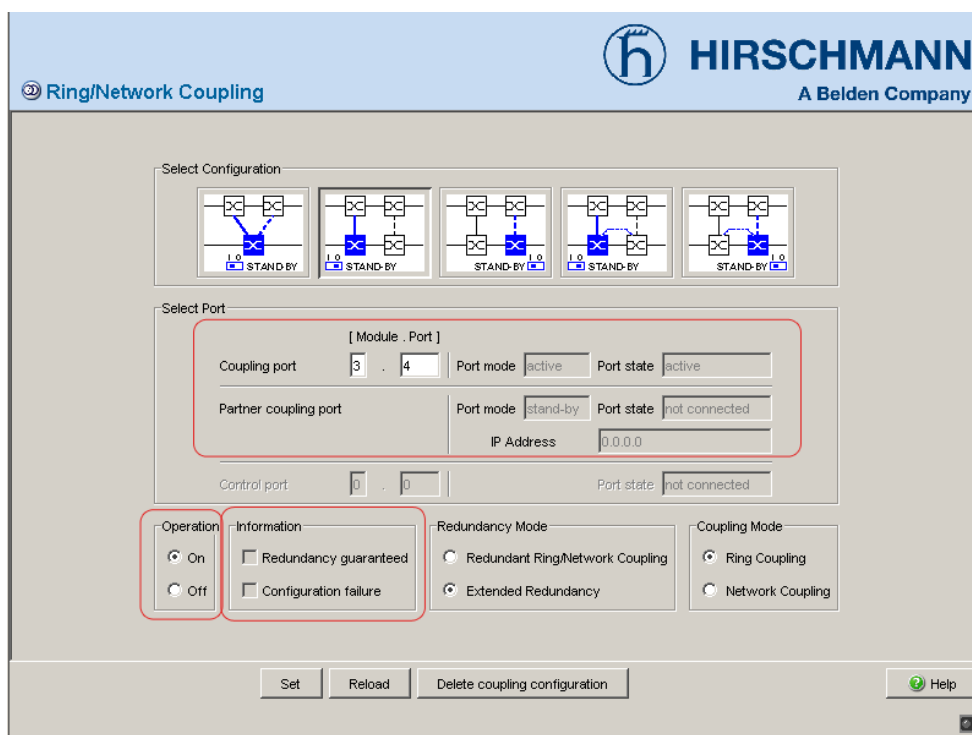

Figure 15: Selecting the port and enabling/disabling operation
- ☐ Activate the function in the “Operation” frame (see fig. 15).
☐ Select the coupling port (see fig. 15), (see table 9).
The displays in the “Select port” frame mean (see fig. 15):
- ☐ Select the coupling port (see fig. 15), (see table 9).
The displays in the “Information” frame mean (see fig. 15):